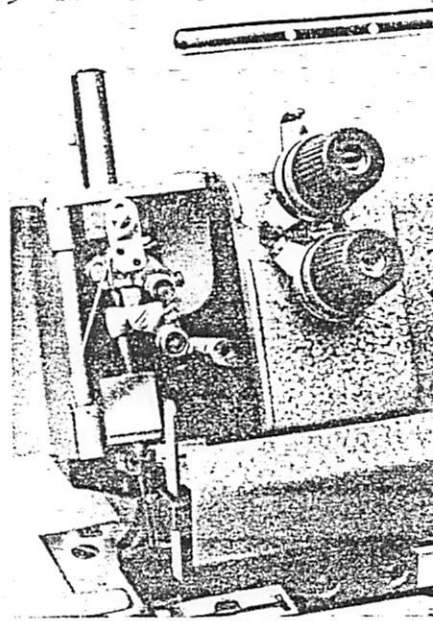
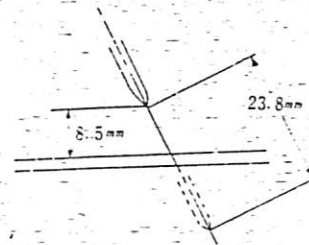

Fig. 28
Fig. 29
Turn the pulley until the needle bar is up highest. Loosen the needle bar clamp screw (A) (Fig. 28); and adjust the needle bar height so that it is 8.5mm from the top surface of the needle plate to the tip of the needle. (Fig. 29)